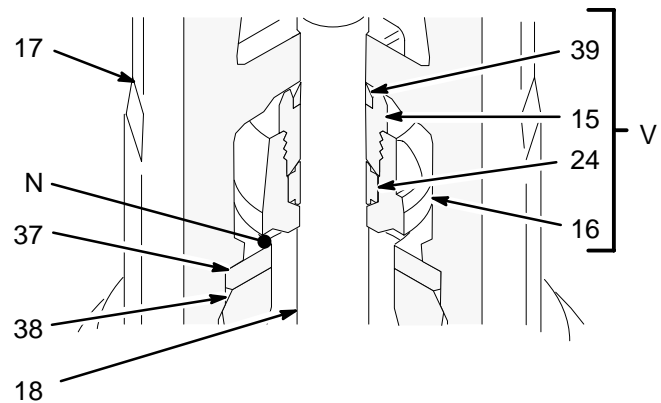

Fig. 6
5. Unscrew the intake valve housing (17) from the cylinder (10) and outlet housing (9). Pull the housing off the pump. The intake check valve assembly (V, see Fig. 6) should slide down the priming piston rod (18) as you remove the housing; if it does not slide easily, firmly tap on the top of the housing (17) with a rubber mallet to loosen.
6. Pull the intake seat (37) and seal (38) out the bottom of the intake valve housing (17). Take care not to drop the check valve assembly (V) as it comes free, and set it aside for later. See Fig. 6.
13. To disassemble the intake check valve assembly (V), place the intake valve body (16) in a vise and unscrew the packing nut (15). Remove the seal (39) from the nut, and the packing (24) from the valve body. Inspect the mating surfaces (N) of the intake valve body (16) and seat (37) for damage or wear. See Figs. 6 and 12.